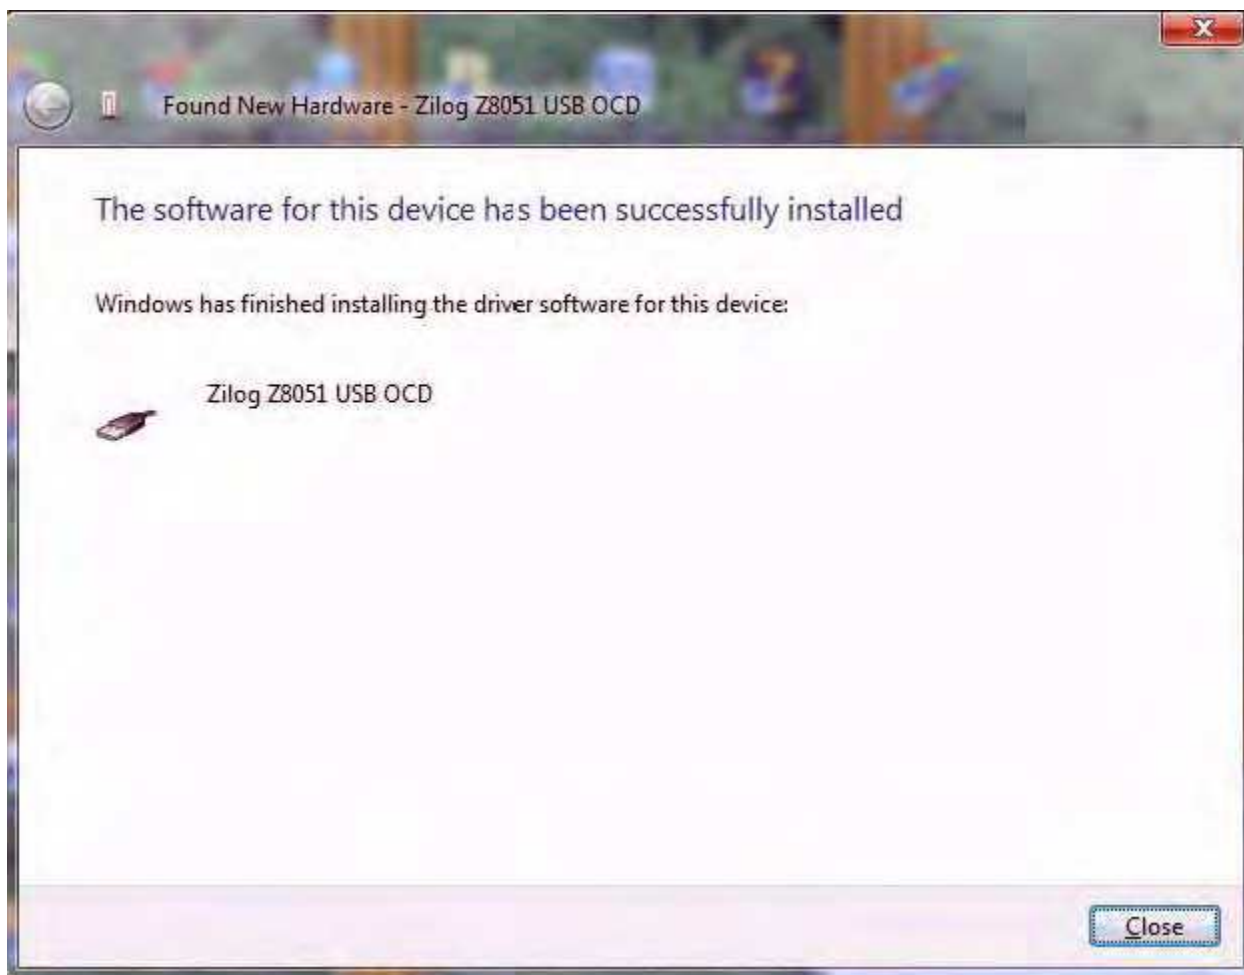

Figure 7. Successfully Installed Dialog, Windows Vista
5. When the installation is complete, the screen shown in Figure 7 will appear. Click **Close** to exit the OCD driver installation.
► **Note:** On some installations, the Found New Hardware screen shown in Figure 7 may also display the text string, Zilog Z8051 USB OCD - No Firmware. This occurrence is normal and can be disregarded.